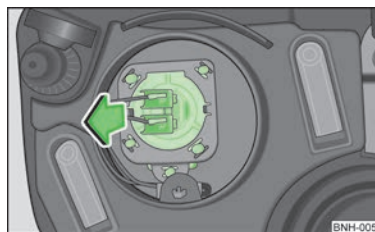

Fig. 127
- Remove the connector with the bulb by pulling it back in the direction of the arrow with loosening movements » Fig. 127.